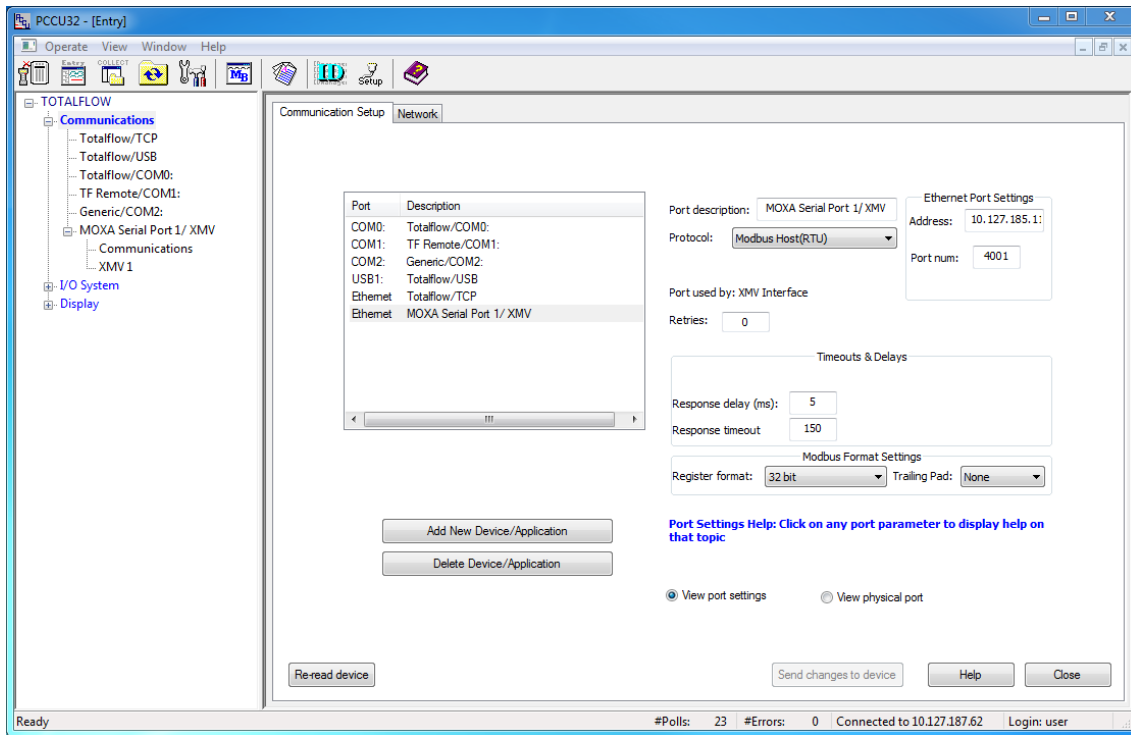

Figure 94: Ethernet communication setup
6. Click **OK**. The Communication Setup screen updates to reflect the new application added (Figure 94) and assigned to the Ethernet interface.
10. Verify the Ethernet interface displays with the defined port name in the communication setup screen (Figure 94).